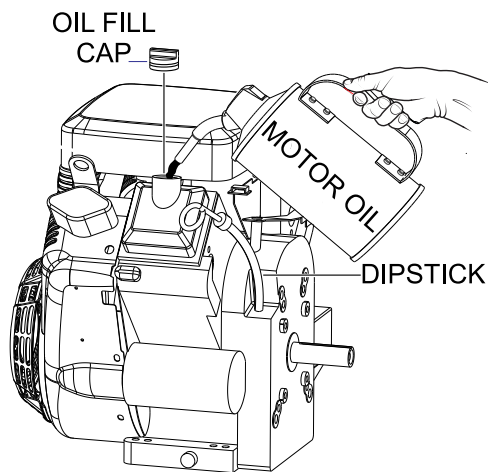

Figure 4. Engine Oil Dipstick Removal
2. Remove the dipstick from its holder (Figure 4) and wipe it clean.
4. If the oil level is low, remove the oil fill cap (Figure 4) and fill the engine crankcase with lubricating oil through the oil filler hole, but **DO NOT** overfill.